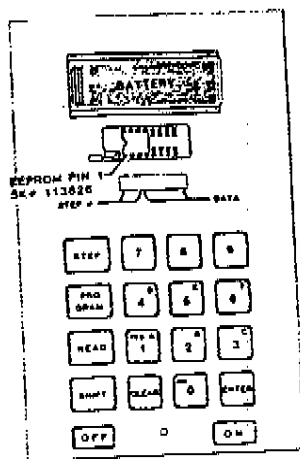

Figure 1
It is powered from a single 9 volt alkaline battery that will provide approximately 16 hours of continuous use. The 5510 also has an auto off feature that will turn off the programmer if no keys are depressed for 5 minutes. Figure 1 shows the general layout of the 5510 programmer.
**PROM Socket:** The 5510 has a zero-insertion force socket for the EEPROM. The EEPROM must be inserted with the lever on the socket pointing up. Be sure the EEPROM is inserted with its notched end closest to the lever. After insertion of the EEPROM move the lever to the down position. Figure 1 shows the correct orientation for the EEPROM. Always be sure you insert the EEPROM correctly in the socket.
You have now entered all 6 steps for the model 1501 into the RAM of the 5510 and are ready to program the 2443 EEPROM. To do this put the 2443 EEPROM into the socket correctly (see figure 1). Press the PROGRAM key. When programming is complete the display will indicate PASS or FAIL. PASS indicates that the EEPROM was programmed with the same data that was entered into the 5510 RAM.